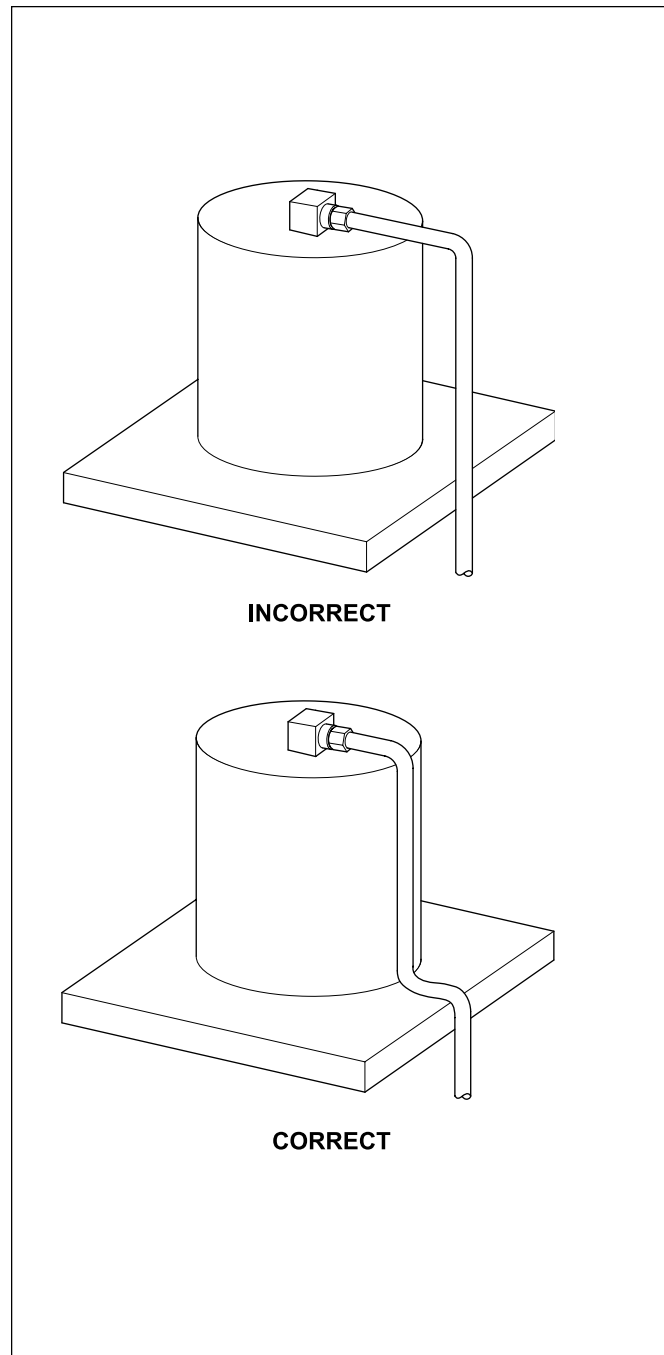

Figure 15
- Bend tubing so that it conforms as closely as possible to the contour of the surface or object it is mounted on. Avoid free-standing tubing or hose that might cause interference or be subject to damage due to increased vulnerability (see Figure 15).